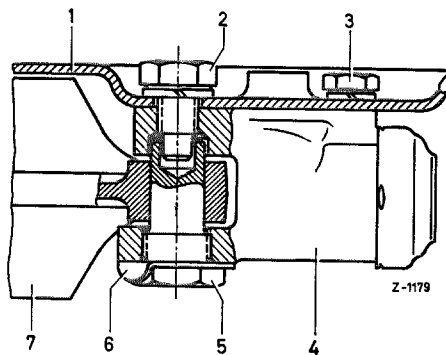

Fig. 42-8/3
4. Unscrew the stop screw (2) (Fig. 42-8/3).